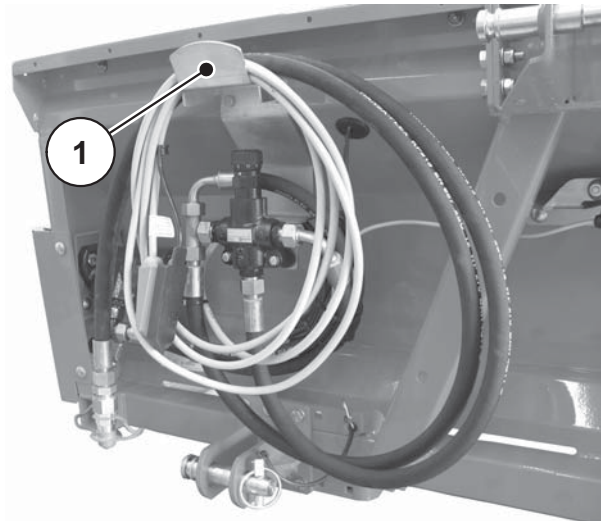

Figure 6.11: Retainer for cables and hoses
- After unhitching, place the hydraulic hoses and electric cables in the retainers on the frame provided for the purpose (see figure 6.11).